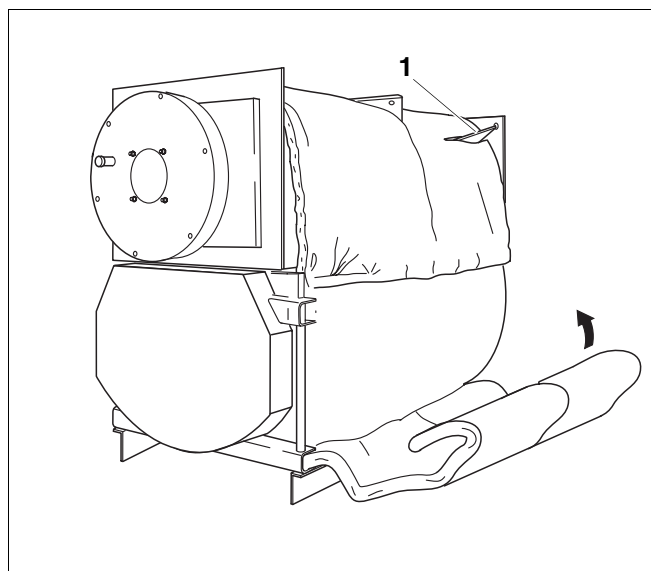

Fig. 5 Insulation blanket
- Position the insulation blankets for the boiler body so that the cut-outs are located over the cross brackets plates (Fig. 5, **Item. 1**).
- Tuck the insulation blanket in underneath the boiler (Fig. 5).